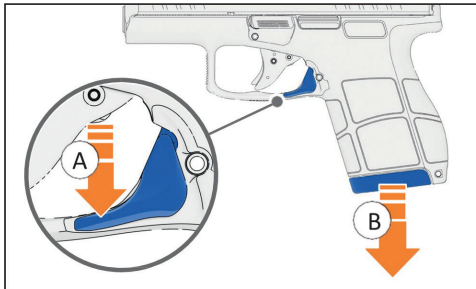

Figure 19 – Magazine removal
2. Press magazine catch (Fig. 19-A).
3. Remove magazine (Fig. 19-B).